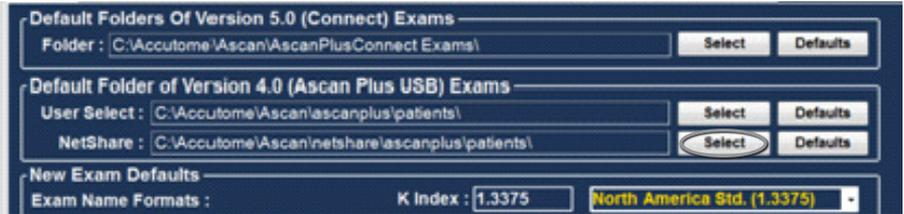

Figure 5.11 - Net Share
1. Click on select as shown below in Figure 5.11.
3. If you would like to restore the default folder for exam data, click on “Defaults” as shown in figure 5-11.